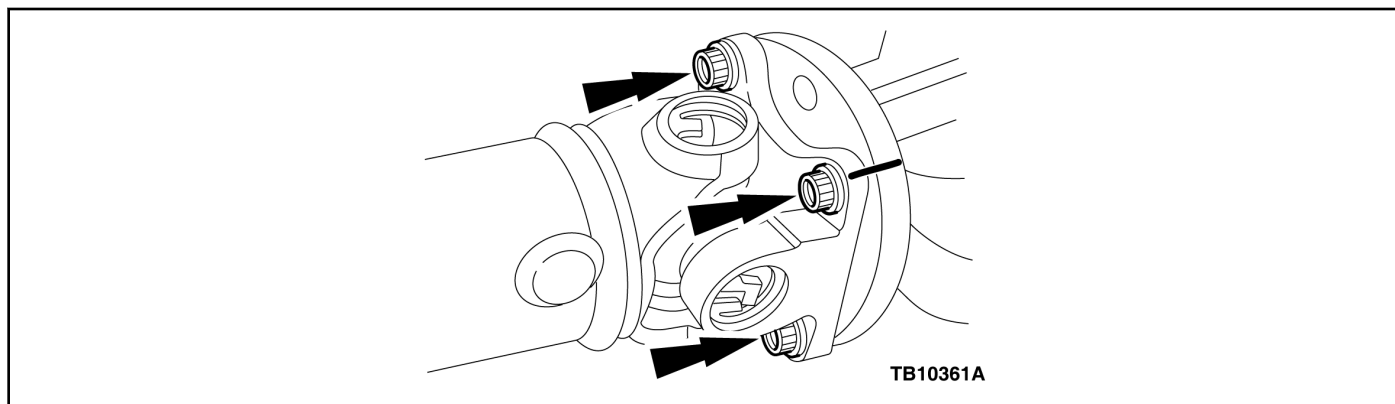

Figure 1 - Article 14-0090
4. Index-mark the driveshaft flange and pinion flange for correct alignment during installation. (Figure 1)
16. Position the driveshaft to the pinion flange and align the index marks. (Figure 1)
17. Install four (4) new driveshaft flange bolts and tighten to 103 Nm (76 lb-ft).